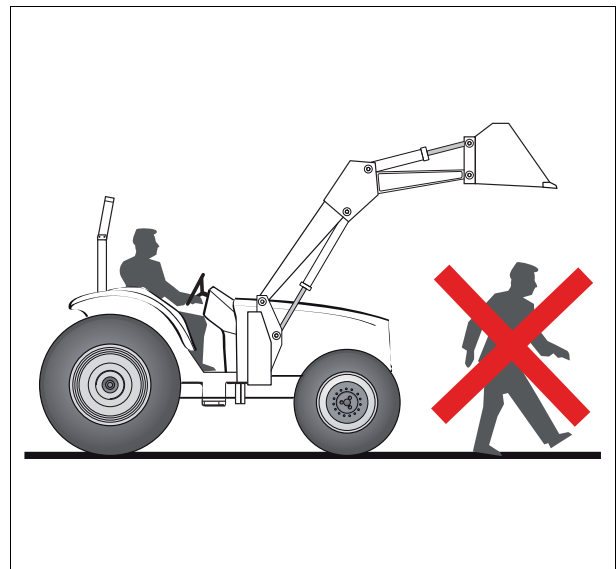

Fig. 2.
- Do not allow anyone to stand or pass in front of, under or behind an implement fig. 2.